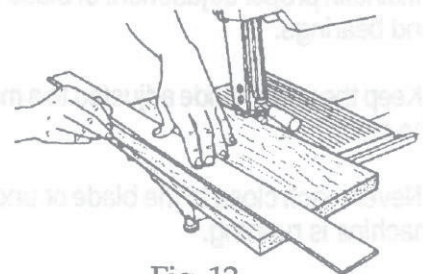

Fig. 12
9. Use a straightedge to draw a line the length of the board connecting the marks, as shown in Fig. 12. The fence should not be installed on the table at this time.